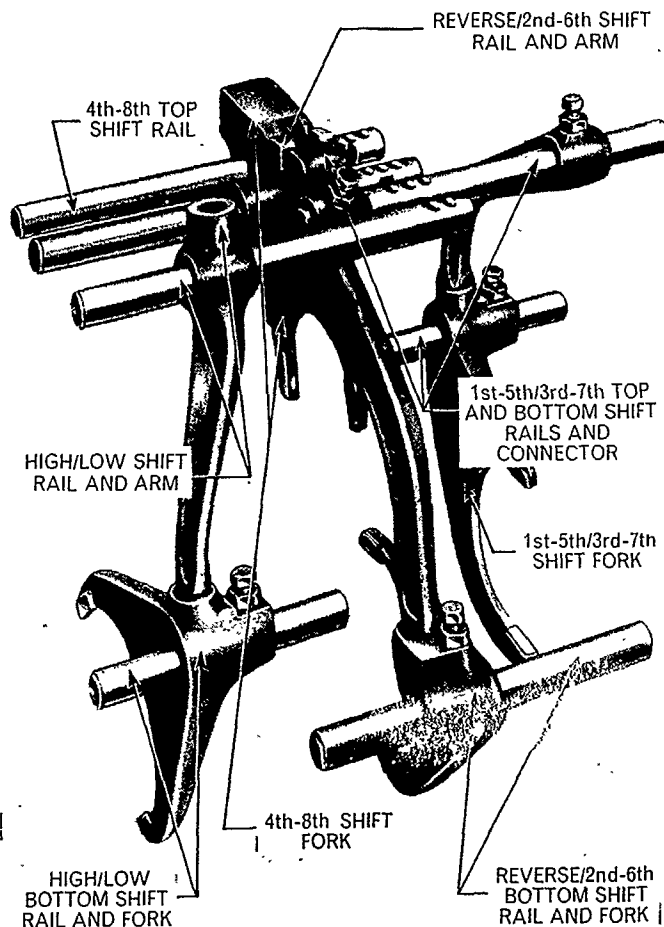

Figure 76
1. Unscrew the locknut and retaining screw from the High/Low shift arm, Figure 76, and remove the top shift rail rearward, pushing the sealing plug out with the end of the rail.
2. Remove the locknut and retaining screw from the 1st-5th/3rd-7th shift connector at the rear of the top shift rail, and also from the shift arm at the front of the rail, Figure 76.
1. Position the 1st-5th/3rd-7th shift fork Figure 76, on its appropriate sliding coupling, and pass the 1st-5th/3rd-7th bottom shift rail through the fork to locate in the bore of the reverse idler shaft. Make sure the oil relief groove on the shift rail is facing forwards.
8. Pass the High/Low top shift rail in from the rear of the transmission with the oil relief groove rearward. Assemble the High/Low shift arm and make sure the arm locates in the corresponding hole in the High/Low shift fork, Figure 76. Install the retaining screw and locknut, and tighten to the specified torque. (See Specifications, Chapter 3.) Drive the sealing plug into the bore and secure by staking round the edge.